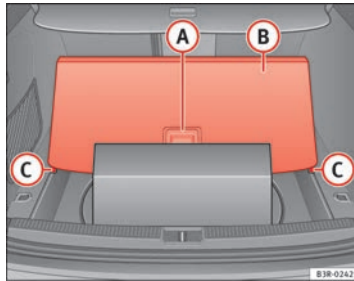

Fig. 122 Floor panel raised
- Take hold of handle (A) ⇒ Fig. 122, lift the floor panel (B) and line up the bottom corners of the floor panel with the recesses (C).
- Take hold of the handle (A) ⇒ Fig. 122 and fold out the floor panel as far as the rear backrest.
Small items can also be stored **under** floor panel (B) ⇒ Fig. 122.